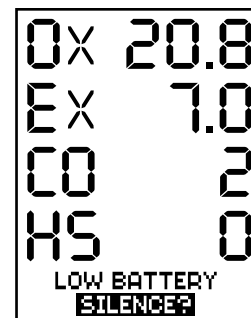

Fig. 24
- Sounds for "LOW BATTERY," silence for 5 minutes (Fig. 24).